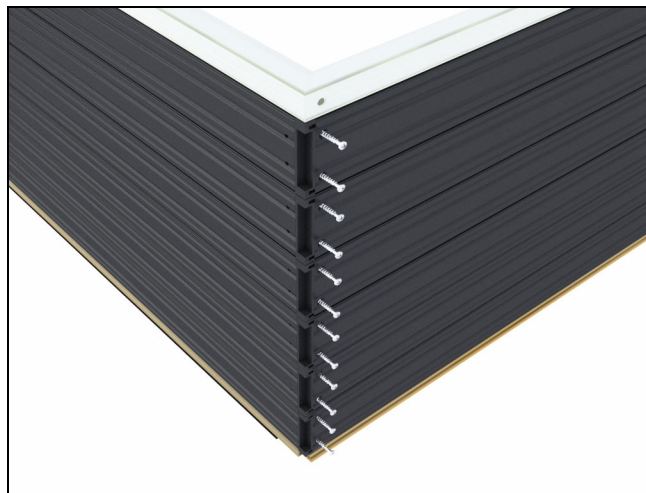

Figure 31
3. Fasten head jamb to side jamb using #8 x 1 1/4" pan head screws. See figure 31. *Note: If unit is prepped for motorization, use two #8 x 3/8" pan head screws on interior track.*